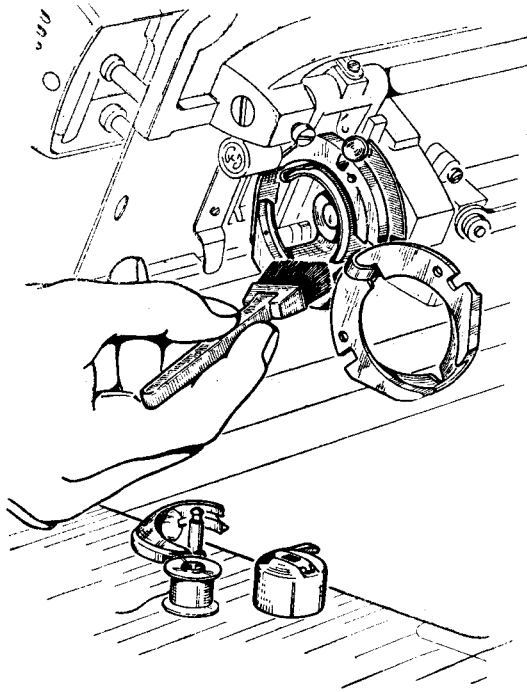

Fig. 11
- f. Remove lint and pieces of thread with a soft rag then clean the shuttle race with the small brush (see Fig. 11), dipped in kerosene, and wipe the shuttle race dry. Next, put a drop of oil into the raceway and on the rim of the shuttle.